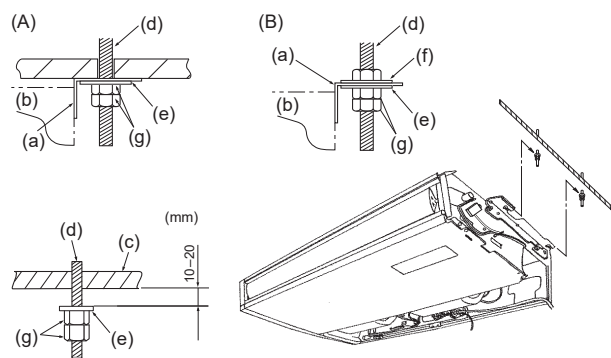

Fig. 3-5
(2) Forcing open the intake grille or opening it to an angle of more than 120° may damage the hinges.
3.3. Installing the indoor unit (Fig. 3-5)